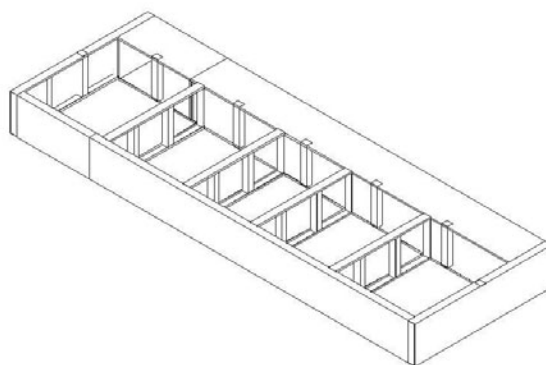

Fig. 2.5
5. Installate the bottom of the heat-air generator: the air out mouth should be connect with the metal sides board.(shown in Fig.2.5)